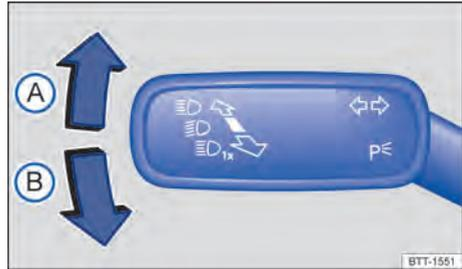

Fig. 84 On the left on the steering column: turn signal and main beam lever.
2. Bring the turn signal and high beam lever from the centre position to the required position → Fig. 84: